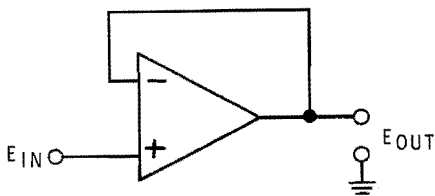

Figure 3-91
15. The circuit shown in Figure 3-91 has: